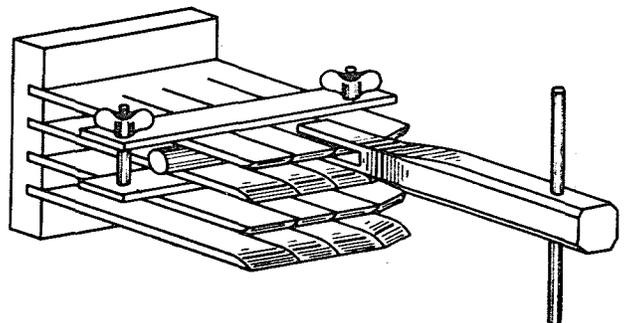
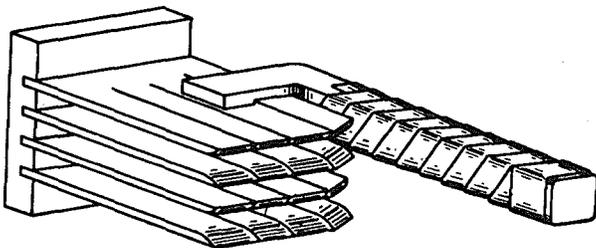

Fig. 7 - Illustrating Contact Clip Adjustment
Fig. 8 - Illustrating Contact Clip Adjustment
(4) When the amount of adjustment is small, a bending tool may be used as shown by Fig. 7 or Fig. 8.